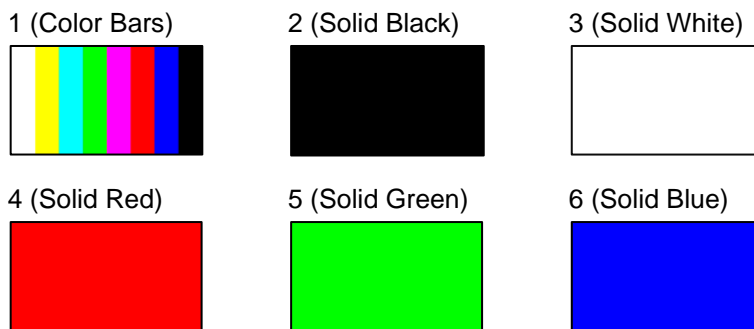

Figure 15: VS-88H2 and VS-84H2 Embedded Patterns
3. Press an input button to select a pattern (see Figure 15).